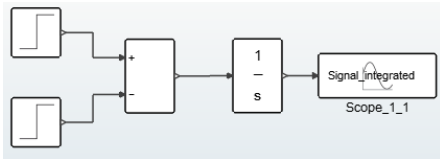

Fig. 2: Activate model of unit impulse torque and integration
- We will apply the following unit impulse torque (Fig. 2) which will produce a finite displacement value (Fig.3).